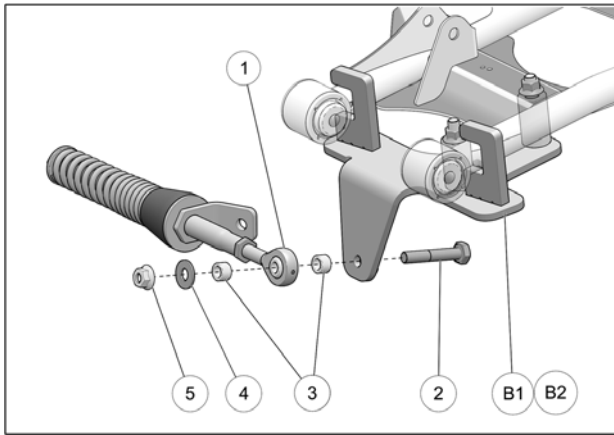

Fig. 7
7. Attach the rear suspension stabilizing rod (1) to anchor plate (B1-B2) using M10x60mm bolt (2), straight bushings (3), washer (4) and nut (5). Torque to 70 N•m [52 lb•ft]. See Fig. 7